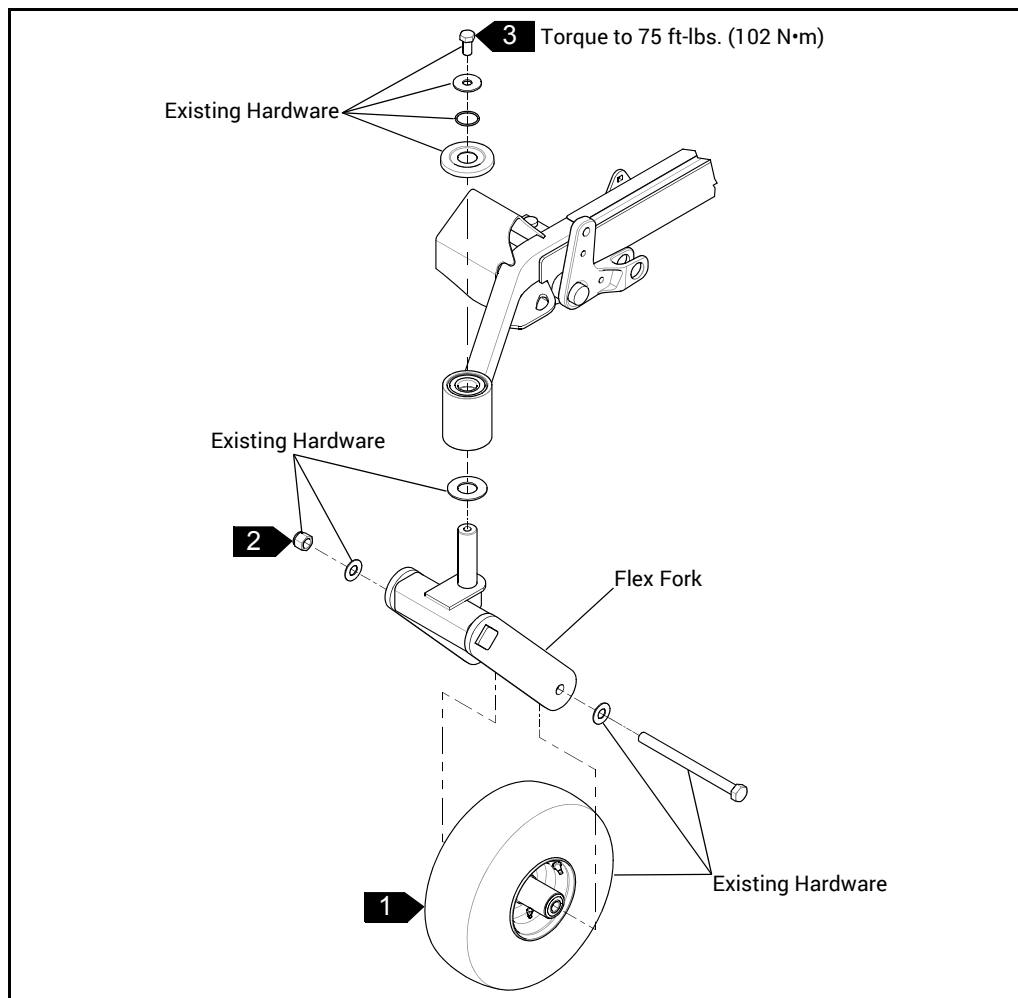

FIG. 1
5. Attach the flex fork to the mower frame using the existing hardware. Make sure that all hardware is replaced exactly as it was removed. Reference the illustration for accurate part placement. Apply one drop of Loctite® 242 to the bolt threads. Torque the hardware as shown (FIG. 1).